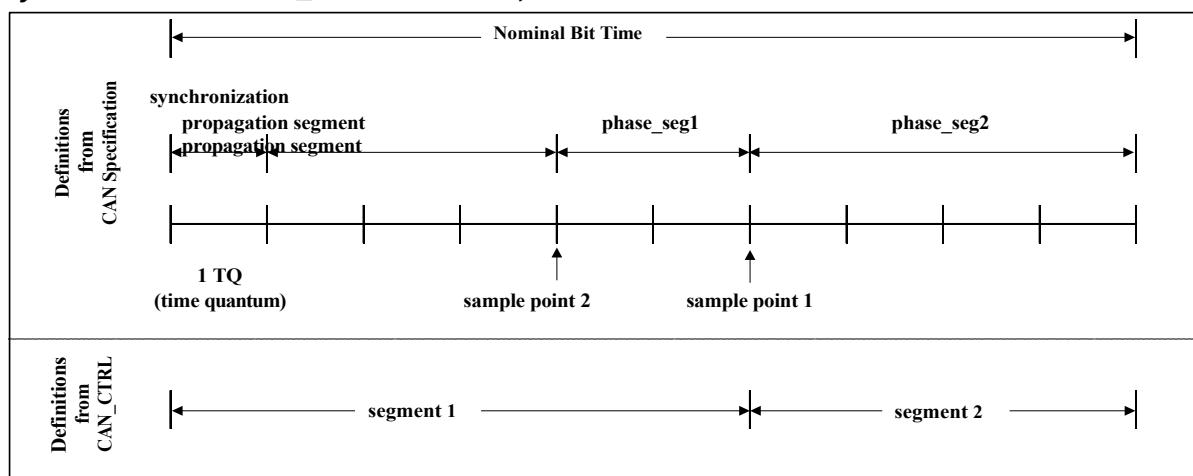

Figure 30-2 CAN Bit Time Definition Diagram
- 1) If the PRESC bit of the BT register is set to ≥ 1 , the sample point is located at the division point of segment1 and segment2 as shown in sample point 1 of Figure 30-2.
- 2) If the PRESC bit of the BT register is set to 0, the sample point is 2 TQs in front of the segment1 and segment2 demarcation points as shown in Figure 30-2. If the PRESC bit in the BT register is set to 0, the sample point is 2 TQs in front of the segment1 and segment2 demarcation point as shown in Figure 30-2.